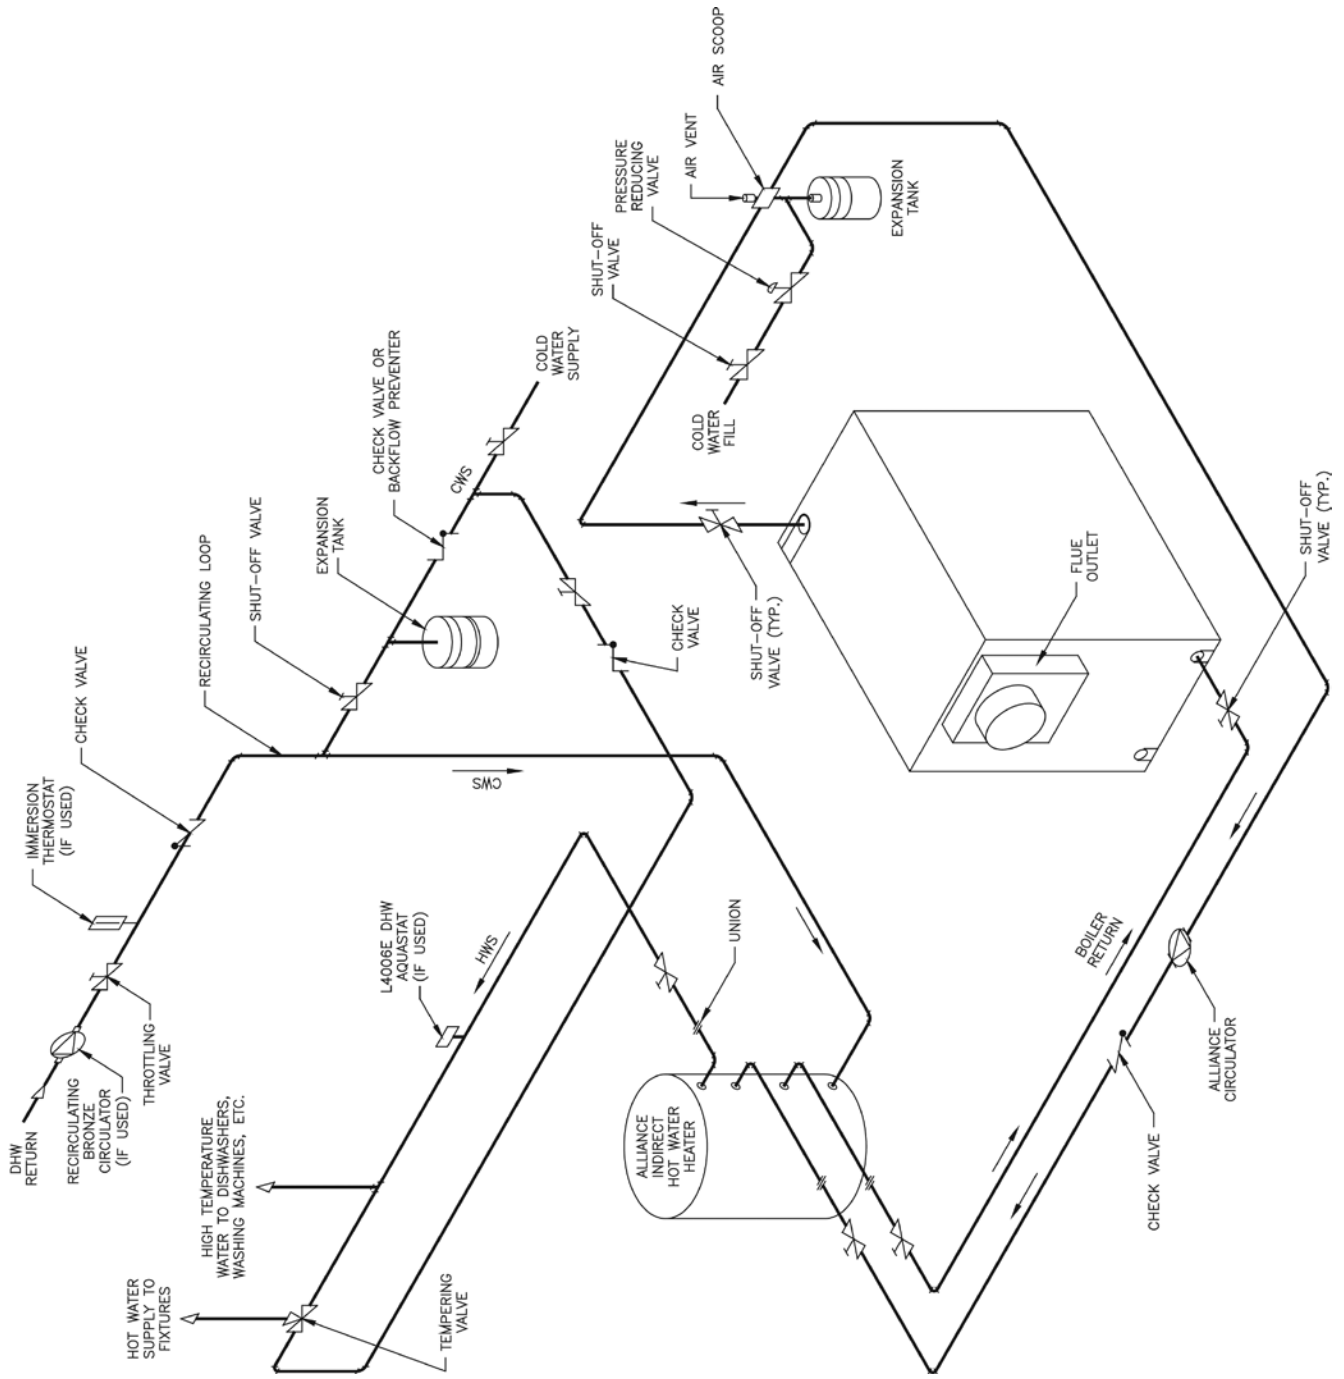

Figure 37c: DHW Generation with Indirect Water Heater
3. Hot Water Boiler/Indirect Water Heater - The use of indirect water heaters for domestic hot water generation is common and somewhat advantageous over tankless coils alone, since they also provide DHW storage. A tempering valve and recirculating pump are again recommended for a dual temperature system, to provide a constant temperature to the fixtures without waiting for cooler water to warm up. Figure 37c shows a typical indirect heater piping application with no space heating. Indirect pump flow rates are calculated based on a 20°F ΔT .